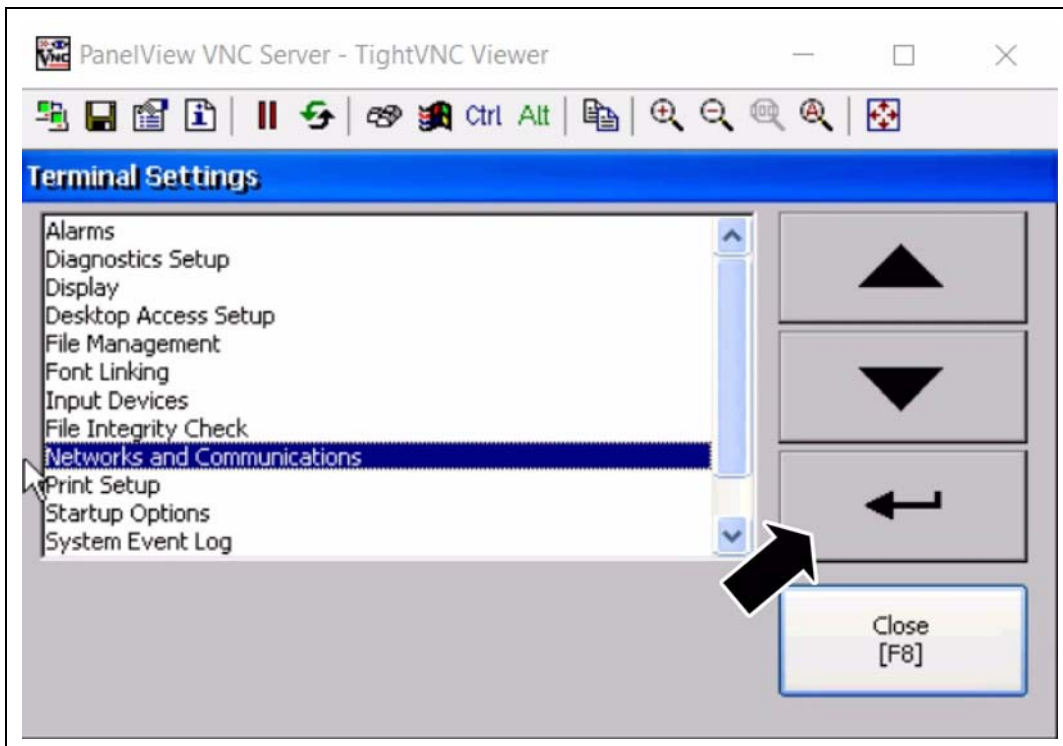

Figure 4B
2. Select Networks and Communications and press Enter. (See Figure 4B.)